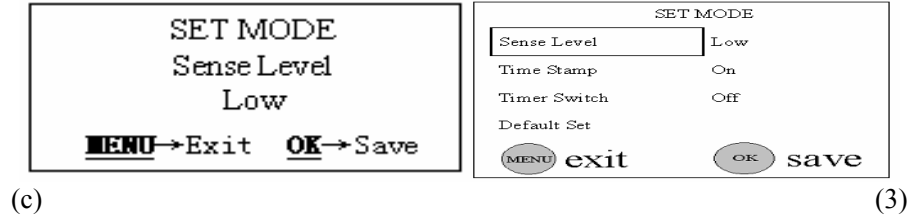

Figure 13: Setting PIR sensitivity
- 1 In Menu, press the UP or DOWN key until Sensor Level appears, as shown in Fig. 13(a) and 13(1).
- 2 Press the RIGHT key until the desired value appears, as shown in Fig. 13(b) and 13(2).
- 3 Press the OK key to save or press the MENU key to cancel and exit. After pressing the OK key, the selected value will no longer be highlighted, as shown in Fig. 13(c) and 13(3).